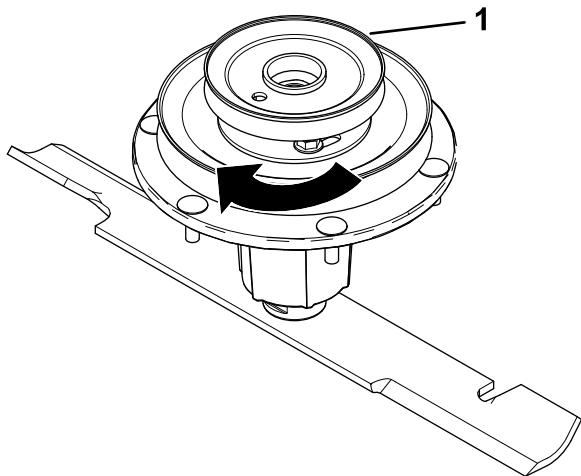

Figure 11
- Turn the pulley to lock it into position (Figure 11).